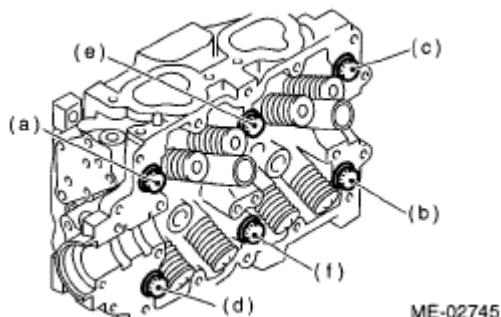

Fig. 127: Identifying Cylinder Head Bolts In Alphabetical Sequence
10. Remove the cylinder head bolts in alphabetical sequence as shown in Fig. 127.